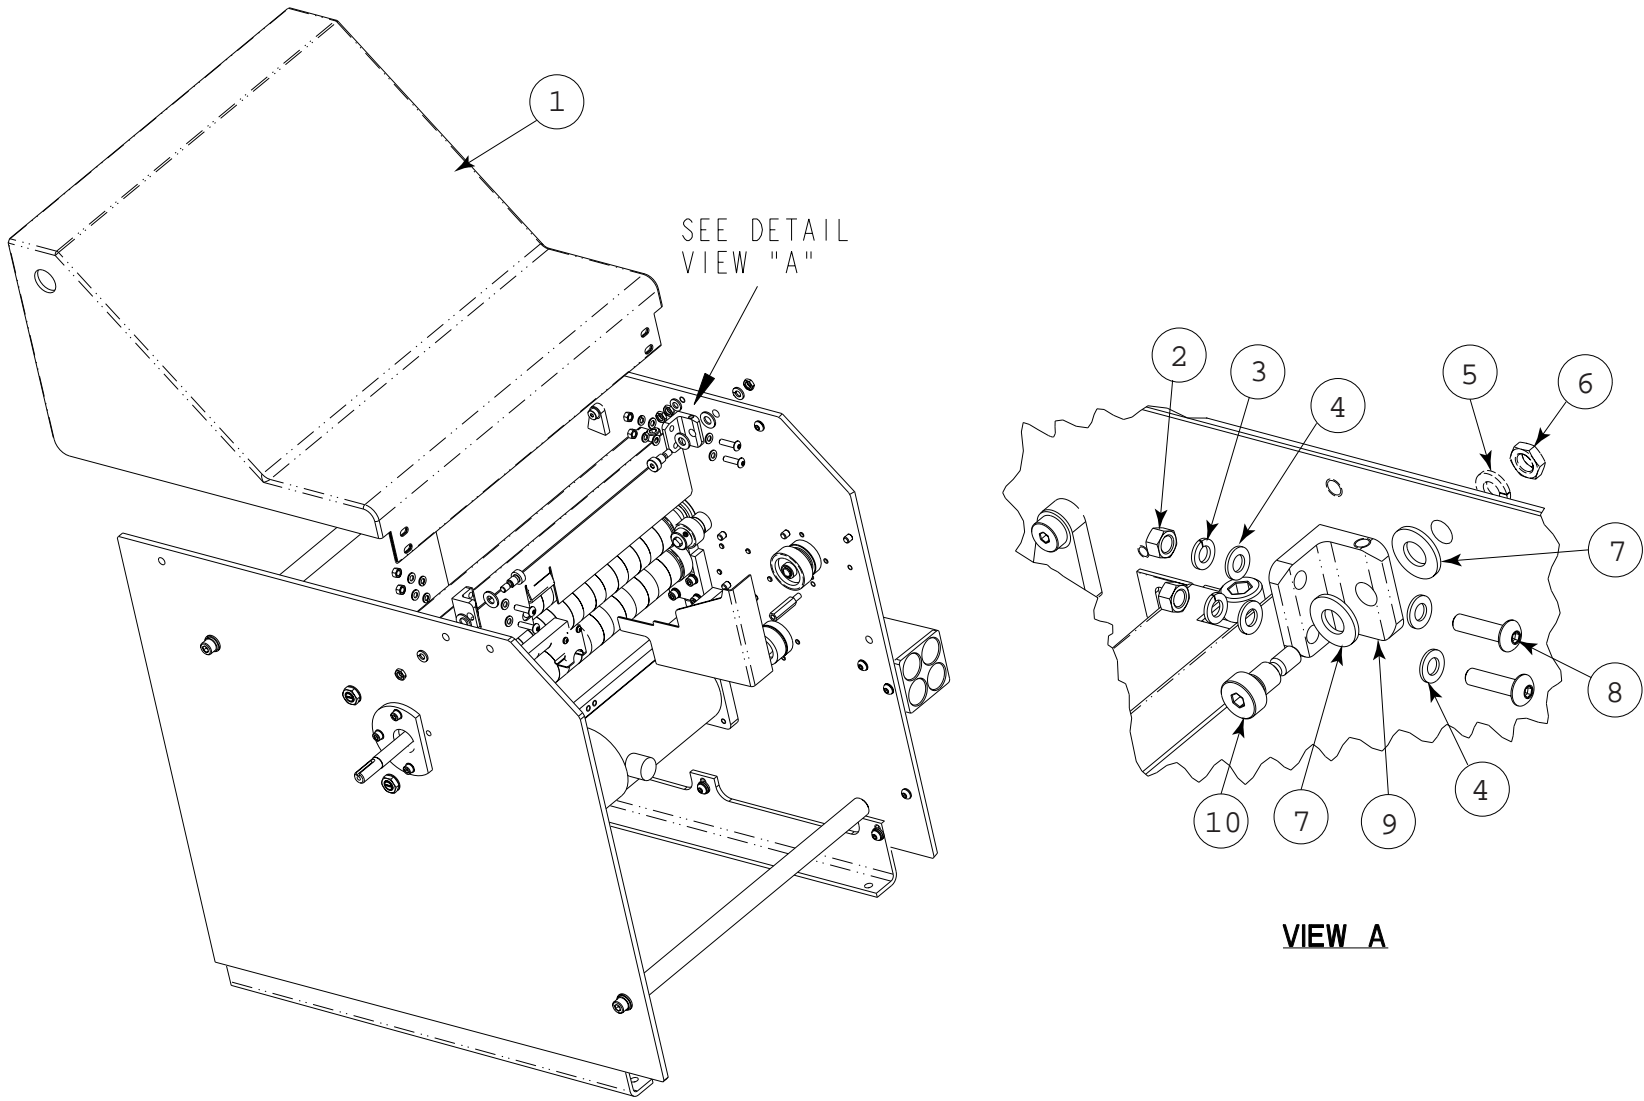

Figure 3
7) Using Items 2, 3, 4 & 8 of Figure 3, attach Item 9 to both sides of Item 1. Do Not tighten at this time as the cover will need to be aligned and centered with the folder frame.
8) Attach the assembled cover to the frame with Items 5, 6, 7 & 10 of Figure 3.